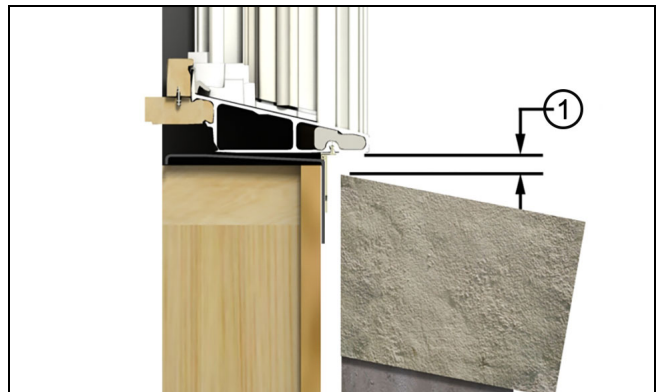

Figure 4
**NOTE:** On standard wood frame construction with brick veneer, make sure there is at least 1/2" (13) between the bottom of the window sill (or eventual placement of the window) and the top of the brick to avoid "brick bind". See Figure 4.